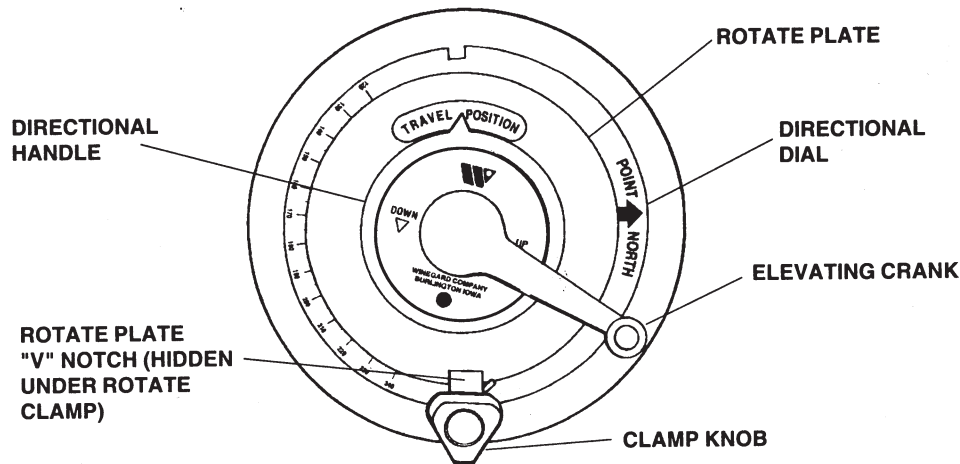

FIGURE 5
STEP 2: Loosen the clamp knob. See Figure 5.
STEP 3: Rotate directional dial (see Figure 5) until the arrow is pointing North.